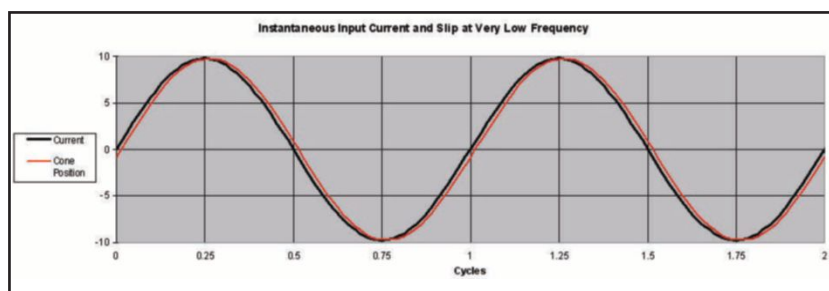
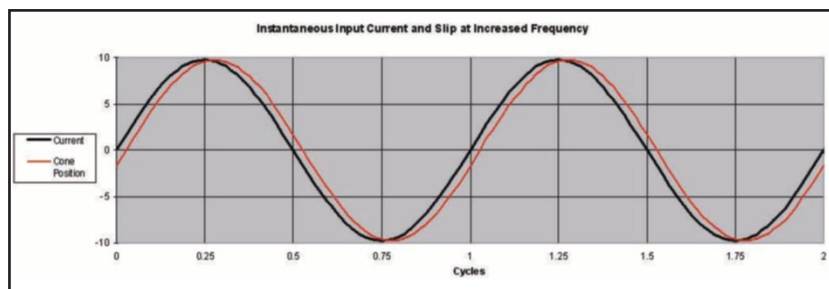
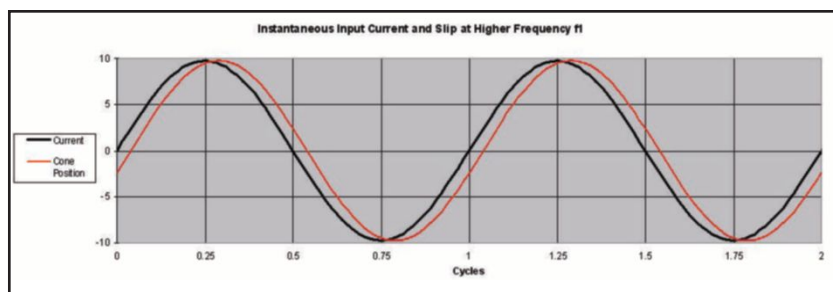
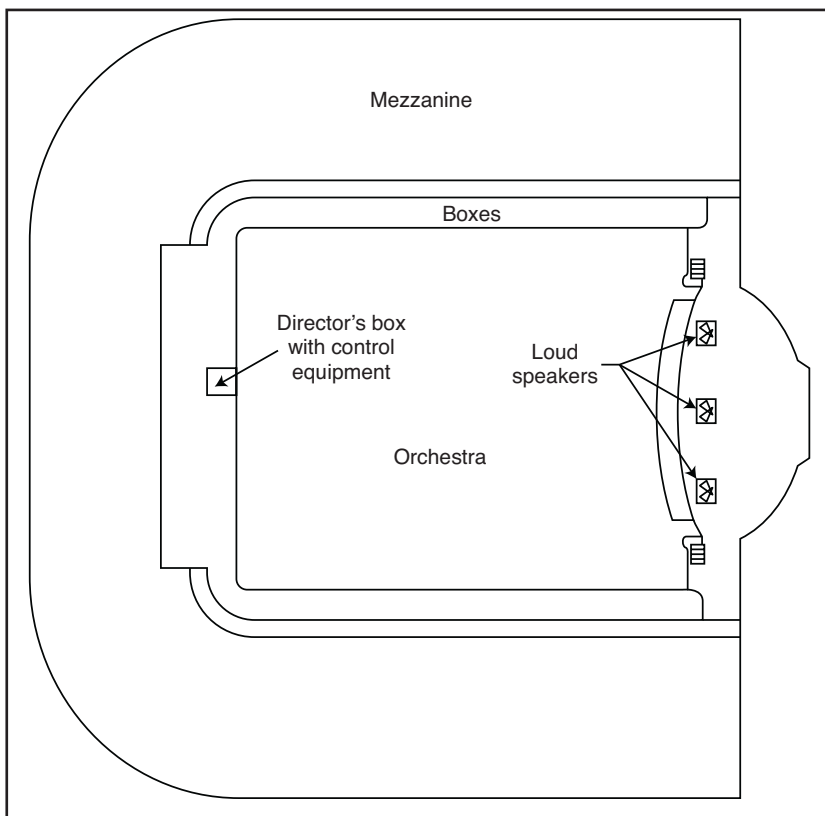

Figure 2: A 5° phase delay is shown between the input current and the cone position at a very low frequency.
Figure 3: A 10° phase relationship is shown between the input current and the cone position at a slightly higher frequency.
Figure 4: A 14.4° phase relationship is shown between the input current and the cone position at a higher frequency f_1 .
Figure 3: The floor plan of Constitution Hall shows the positions of the three loudspeakers. (Original image courtesy of *Electrical Engineering*, January, 1934)
Using the setup shown in **Figure 2**, I once again found I achieved the best results with the L010 piezo electric tweeter—its frequency response goes to 60 kHz as compared to only 40 kHz for the other two. The BatSound Touch software displays an oscillogram and spectrogram (see **Photo 5**) and can also record the M500 microphone's output as a BatSound .wav file, 16-bits at a 500 kHz sample rate. **Photo 6** shows a screen capture of a portion of the two DAC spectrograms: from the Meridian Explorer2 (a) and from the TEAC (b). As expected, the TEAC's spectrum is very near system noise level.
Figure 2: This is my measurement setup block diagram. The MQA-encoded track can be played with TIDAL or foobar2000 running on Windows 10. Both the Explorer2 and UD-301 DACs have a USB input. A Windows 7 computer was running the BatSound Touch program.
I used the Figure 2 setup to measure the spectrograms and capture an MQA-decoded batsound.wav file, 16-bits at 500 kHz sample rate. The MQA and non-MQA spectrograms are shown in **Photo 10**.
I moved the tweeter board (shown in Photo 2 in the first part of this article, *audioXpress*, May 2018) to a shelf between the main left and right speakers (shown in Photo 5 in the first part of this article). Then, using the "playback" part of Figure 2, I played the same tracks used for the measurements. An on-off comparison was easy, just turn off the tweeter feed. What did I hear?
Figure 3: The MQA-encoded "The Night has a Thousand Eyes" track was played through the playback part of Figure 2 (using each DAC in turn) with the output of the variable gain amplifier going to the second computer running TrueRTA to capture the 1/24-octave spectrum. Each display was captured to a text file for plotting. The green line is the MQA-decode, the orange line is from the TEAC DAC and the black line is the system noise. I used a linear frequency scale to expand the 20-to-48-kHz region.
Which low frequency should we illustrate? Let us arbitrarily use the frequency at which the angle of slip is 5° as shown in **Figure 2**.
As we increase the frequency slightly more, the phase delay between the input current and the slip increases to 10° (see **Figure 3**). This 10° slip corresponds to an input frequency of roughly 19 Hz using our Fisher woofer. As was said, each moving-coil driver will have its own frequency for a specific amount of slip.
Figure 2 and Figure 3 illustrate the trend as frequency is increased. We will now increase the amount of slip slightly further, to 14.4°. **Figure 4** shows slip increasing. Cone position falls farther behind input current as frequency is increased. The trend continues as we approach resonance.
room in which the orchestra performed. **Figure 2** is a plot of the measured Reverberation Time (RT) in the room. While the Academy Hall is somewhat dry for direct listening, its acoustics did fall near the optimum for monaural recording. **Figure 3** and **Figure 4** show the floor plan and RT characteristics, respectively, of Constitution Hall.
Figure 4: As you can see, Constitution Hall measured as much more reverberant than the Academy of Music Hall. (Original image courtesy of *Electrical Engineering*, January, 1934)